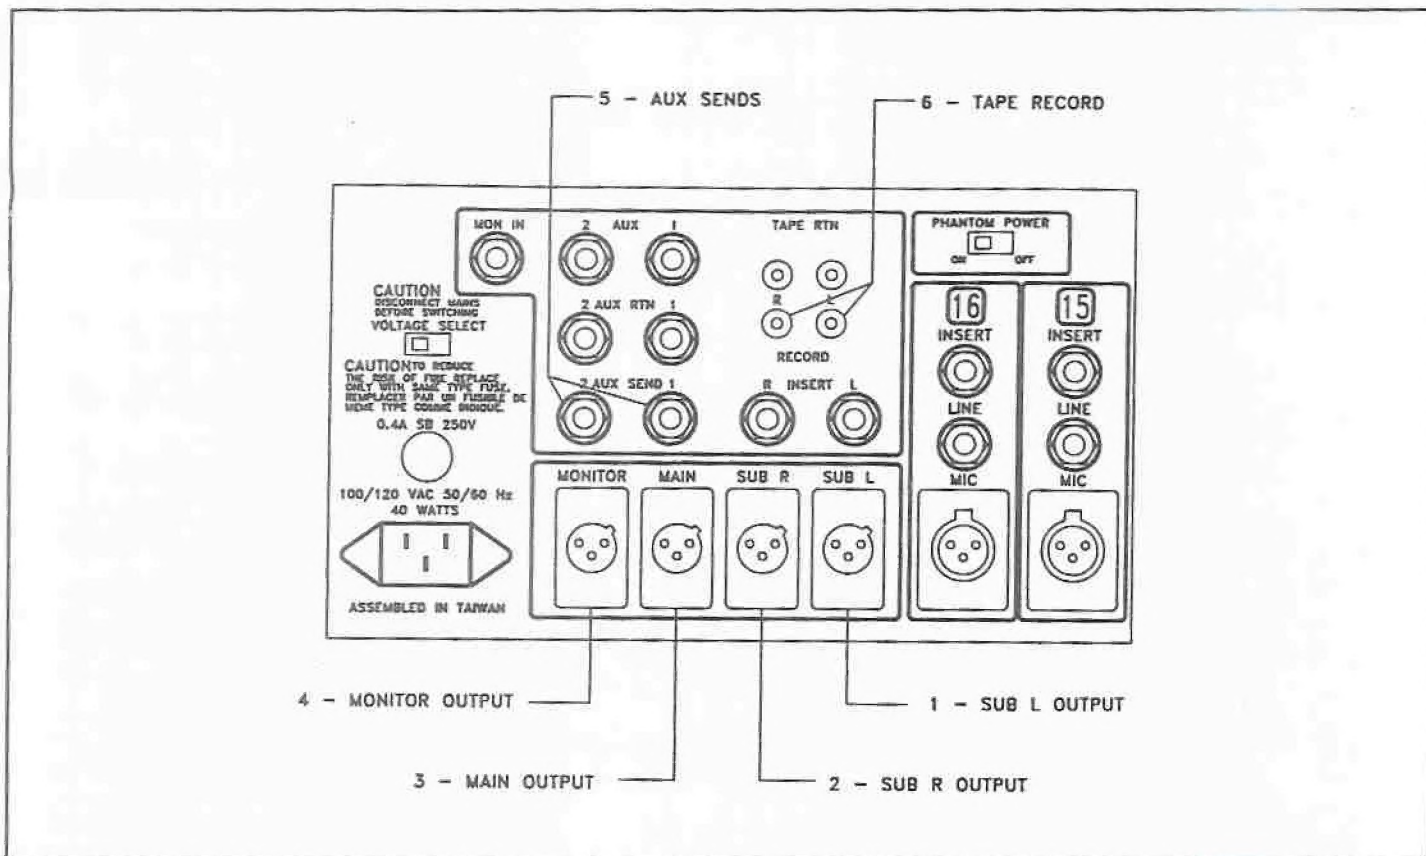

Figure 7. Rear panel output connectors.
4.4 Rear Panel Output Connections (Refer to Figure 7.)